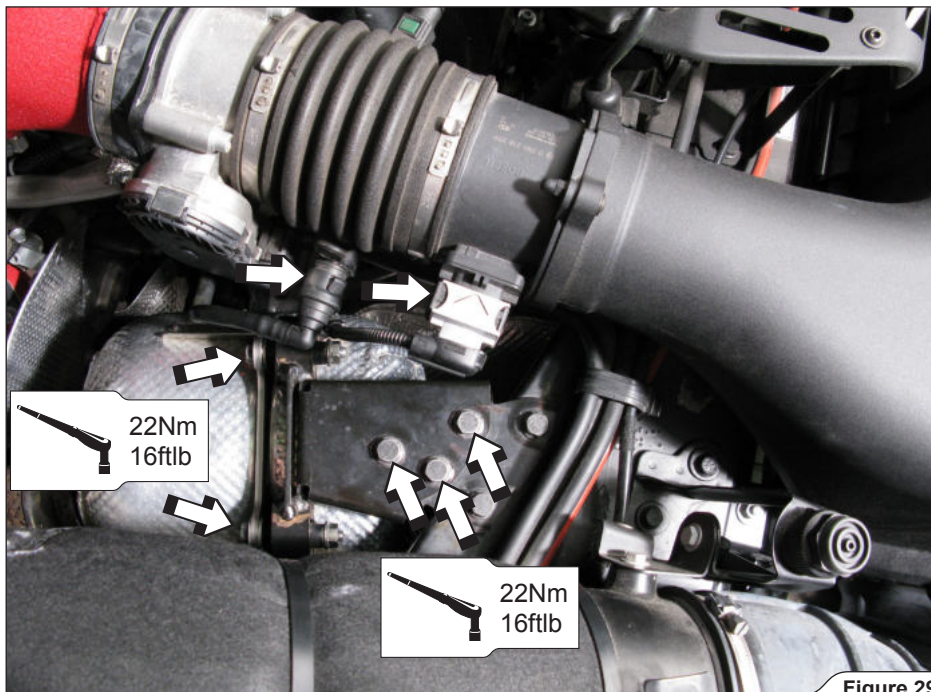

Figure 29
11. **For Slip-On and optional Link Pipes:** reconnect the marked vacuum hose and air mass meter connector and tighten marked catalytic converter's heat shield bolts on both sides of the engine to the specified torque (**Figure 29**).